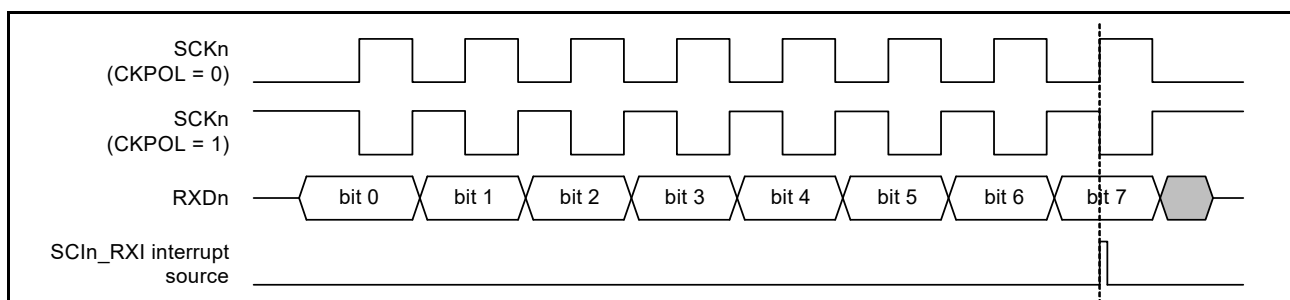

Figure 27.79 Timing of SCIn_RXI interrupt in simple SPI mode with clock delay
(1) Master mode
- For the clock delay setting (SPMR.CKPH bit is 1), the receive data full interrupt (SCIn_RXI) is generated before the final clock edge on the SCKn pin, as indicated in Figure 27.79. If the TE and RE bits in the SCR become 0 before the final edge of the clock signal on the SCKn pin, the SCKn pin is placed in the high-impedance state, so the width of the last clock pulse of the transfer clock is shortened. Additionally, an SCIn_RXI interrupt might lead to the input signal on the SSn pin of a connected slave going to the high level before the final edge of the clock signal on the SCKn pin, leading to incorrect operation of the slave.